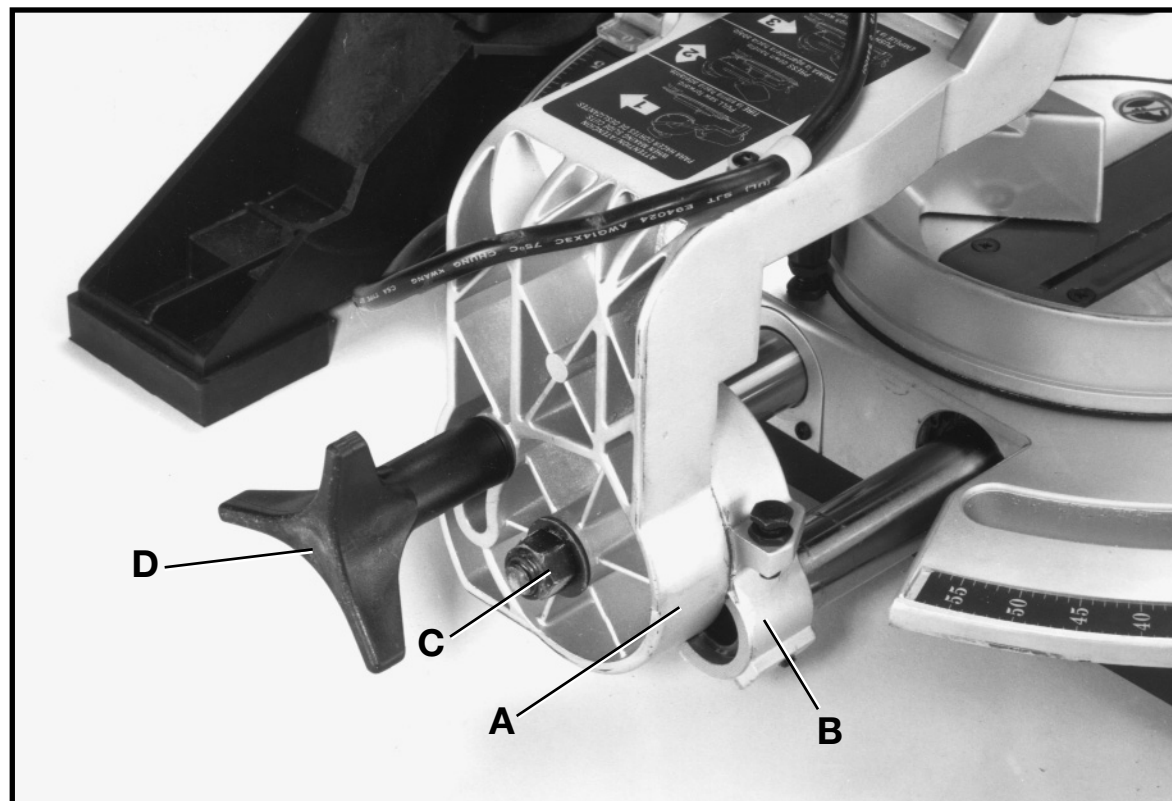

Fig. 43
When it becomes necessary to adjust the sliding fit between the trunnion (A) Fig. 43, and bevel bracket (B), proceed as follows: Tighten adjusting nut (C) until snug sliding fit is obtained. **NOTE:** This adjustment must be made with the bevel lock handle (D) loose. This adjustment should not be too tight that it restricts the sliding movement or too loose that it affects the accuracy of the saw cut.